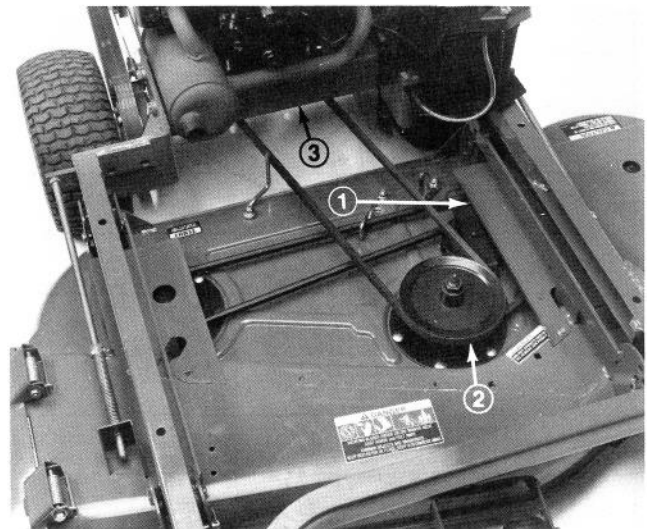

Figure 20
4. Unhook spring from idler arm to relieve tension on deck belt (Fig. 20) and remove worn belt from pulleys.
5. Install new belt around spindle pulleys and idler pulley. Hook spring to idler arm (Fig. 20).